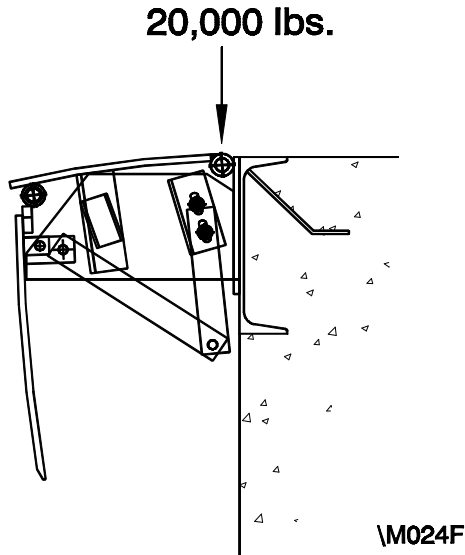
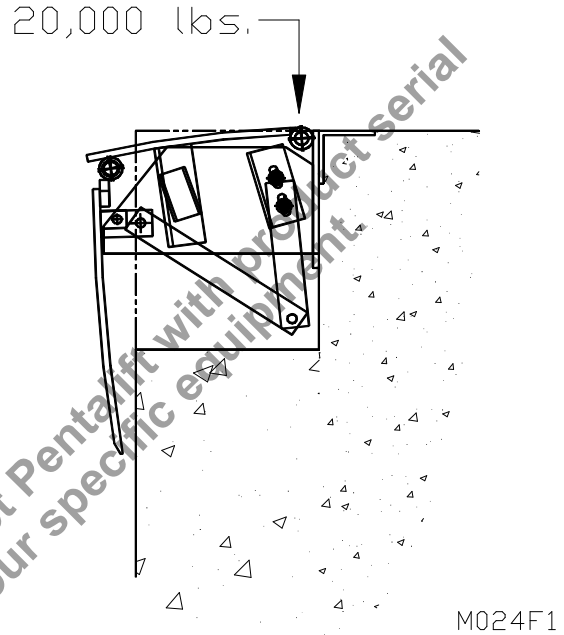

Figure 2: Load Specification (Surface)
Figure 3: Load Specification (Pit)
3. Assure concrete, curb angle or channel has sufficient strength to meet the draw pull forces which will be applied. (See Figure 2 & Figure 3, page 5).